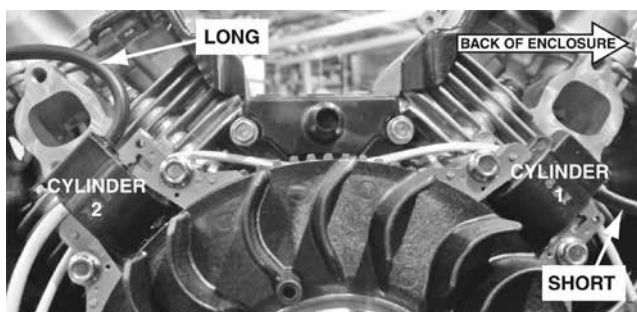

Figure 210.
4. When installing new magnetos there will be one with a short plug wire and one with a longer plug wire (Figure 210).
5. Long plug wire (B) will be installed on front cylinder (number two).
6. Short plug Wire (A) will be installed on back cylinder (number one).